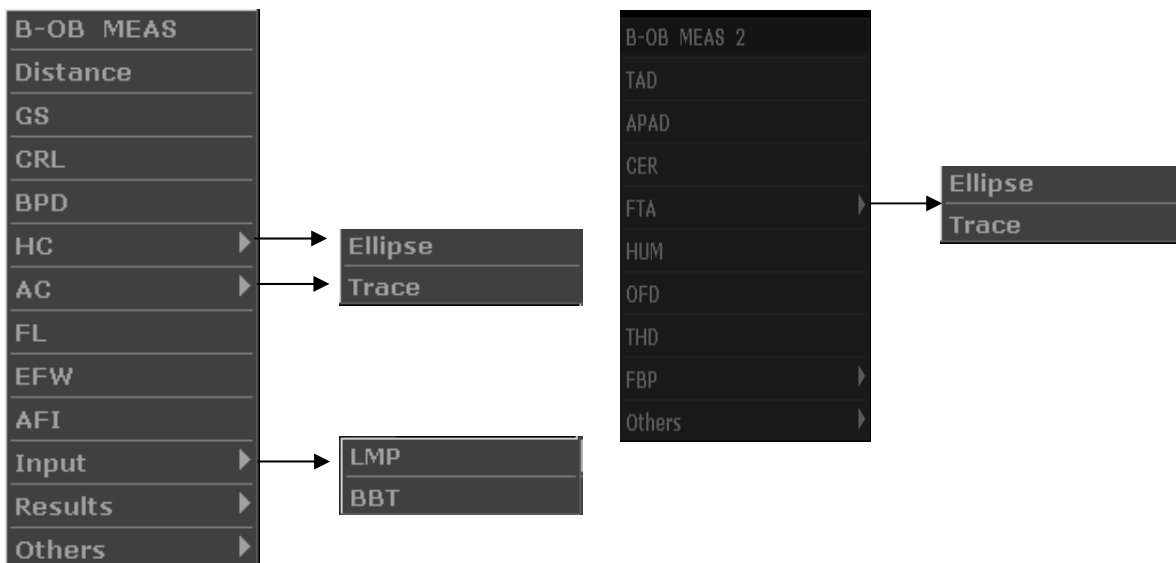

Figure 7-1 Obstetric Measurement and Calculation Menu in B mode
3. Press **Measure** to activate the measurement function. The system displays the measurement menu as shown in figure 7-1.